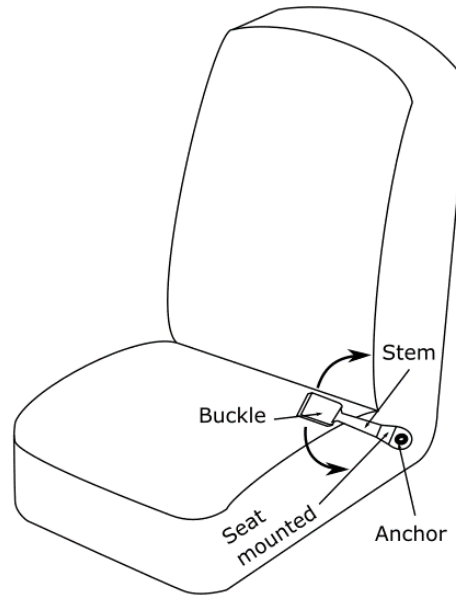

Figure 2.2 Stem Buckle Seat Mounted
- Figure 2.2 shows a seat mounted stem buckle. The stem is rigid but can be rotated. It is usually seat mounted.